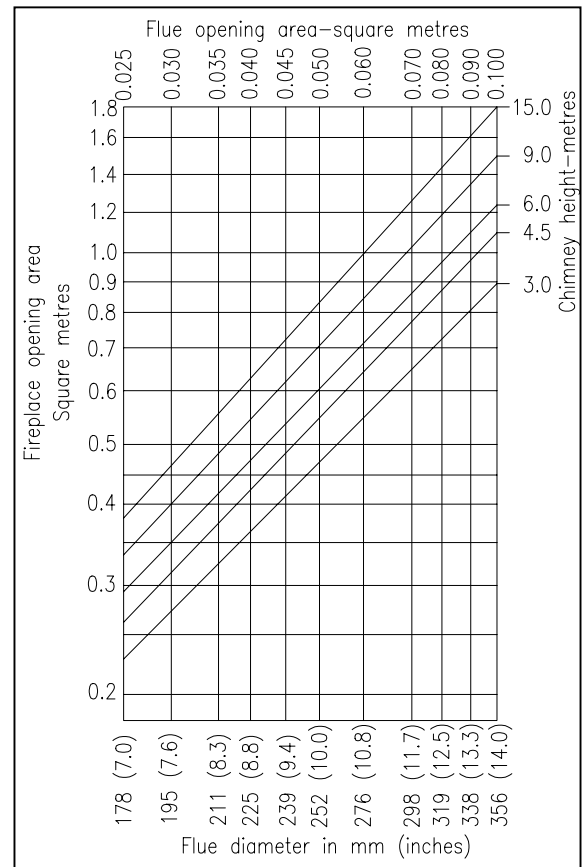
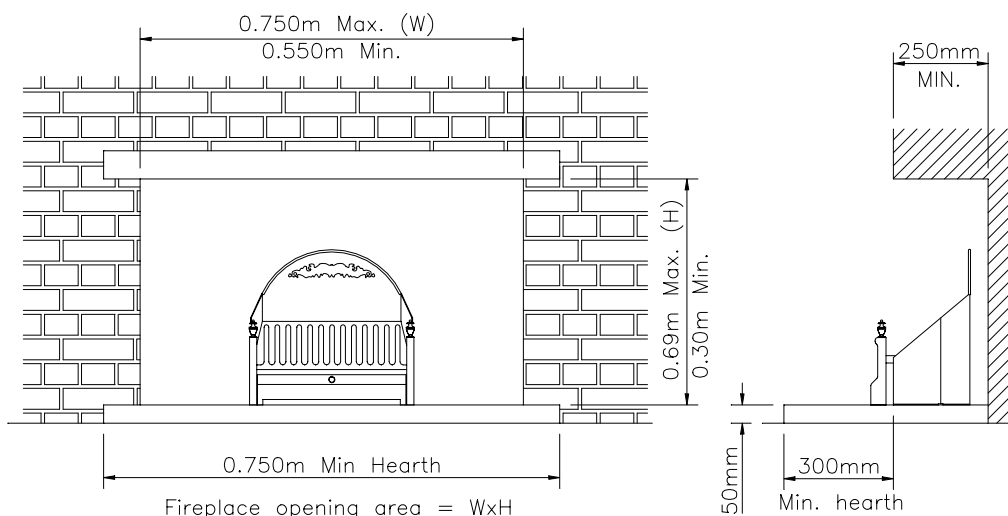

Fig. 1 Flue sizing chart
Fig. 3 Installation in a builders opening
Minimum flue diameter	:] See chart in Fig. 1, Page 2
- The flue size is satisfactory for the size of opening or canopy desired. Use the chart in Fig. 1 to find the correct relationship between opening area and flue size. See Figs. 3 and 4 for critical opening sizes for the Balmoral fire.
The hearth should be a minimum of 50mm (2in.) above floor level; see Figs. 3 and 4 for further details.
If a fret from another manufacturer is being used, it must comply with the minimum free area requirements shown in Fig. 1.
The Straxgas burner may be positioned within a builder's opening, or free-standing on a level non-combustible surface. See Figs 3 and 4 for critical dimensions.
Note: If a fret from another manufacturer is being used, it must comply with the minimum free area requirements shown in Fig. 1.